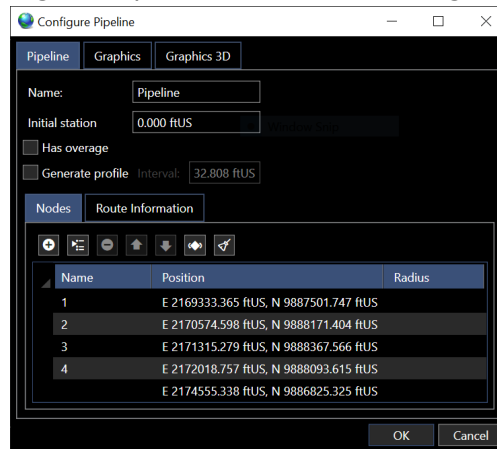

FIGURE 9-22 PIPELINES – CONFIGURE PIPELINE WINDOW
2. Click **Edit** to open the Configure Pipeline window (see Figure 9-22)